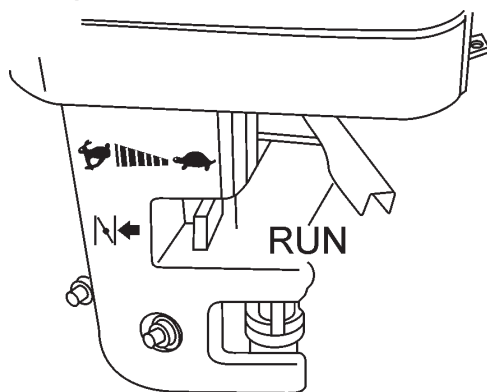

Figure 16. Throttle Lever (Run)
9. To begin compacting, place the throttle lever (Figure 16) in the “**RUN**” position.